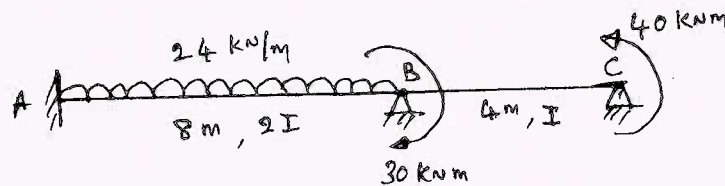

Fig Q9
- 9 Analyse the continuous beam shown Fig Q9 by stiffness matrix method. Draw SFD and BMD.